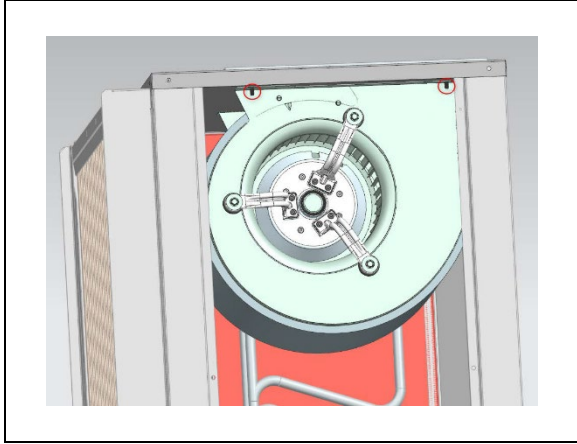

Fig. 3 Front Blower Housing Nut Locations
- 5) Locate and remove 4, 5/8" nuts holding the blower housing to the blower panel (2 in front, 2 in back). **NOTE:** Blower WILL fall once the nuts are removed. Make sure the blower is supported. (See Fig. 3 & 4)